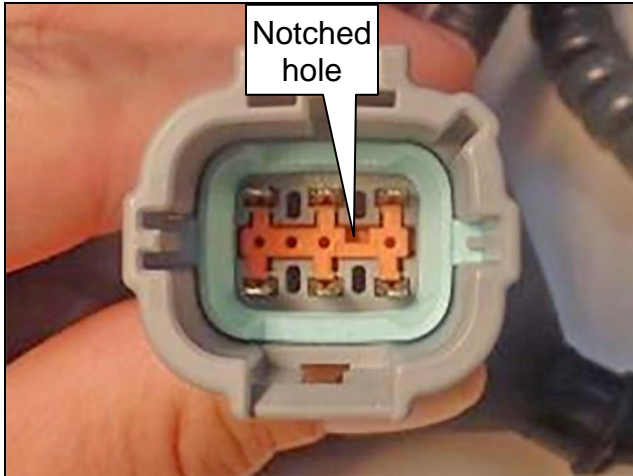

Figure 16
20. Remove the retainer by inserting a suitable pick in the notched hole and carefully prying out (Figure 16,17).